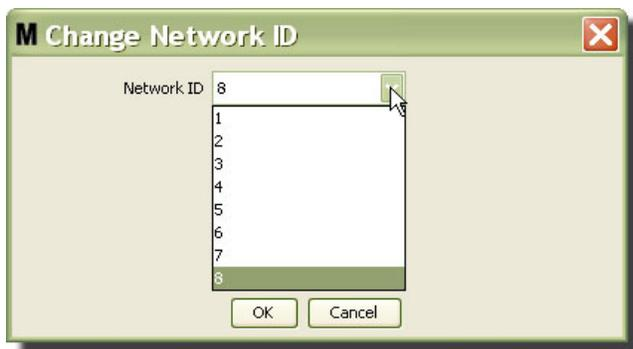

FIG. 60
3. From the drop-down menu of available Network ID numbers, select the Network ID number assigned to your location (FIG. 60). Click OK to close the screen and save the changes.